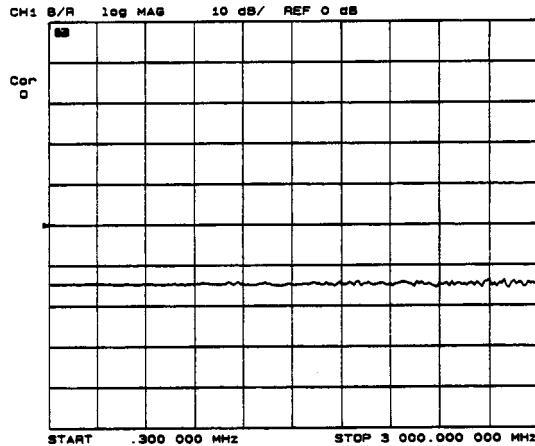

Figure 5-3. Response Calibration with a Fresnel Reflection
- 7 Examine the response on the display and compare it to Figure 5-3. It should be a flat line (approximately) around -14.6 dB (optical return loss). Again, -14.6 dB is the return loss of the Fresnel reflection, which is related to the fiber's index of refraction and air at the coupler port. The percentage of reflected optical power is calculated as:
If the response is not similar to the one in Figure 5-3, check the connections, reclean the connectors, and repeat the procedure.